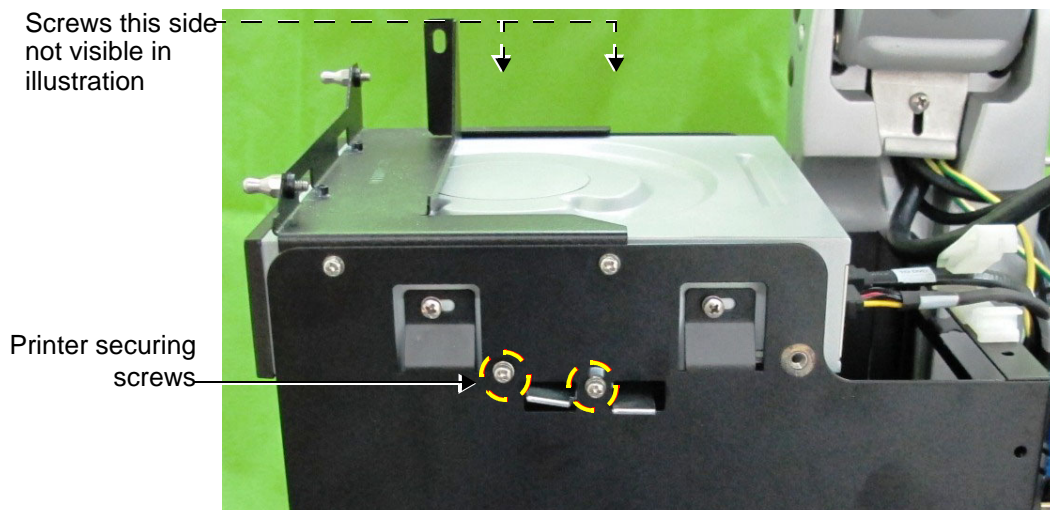

Figure 8-213 Screws Securing Black and White Printer in Compartment
2.) Loosen the two lower Phillips screws on either side of the Peripherals Console (that secures the Black and White Printer in position), as indicated in Figure 8-213.
- 3.) Tighten the two lower Phillips screws previously released from either side of the Peripherals Console (refer to Figure 8-213). Make sure the printer is firmly secured in position.